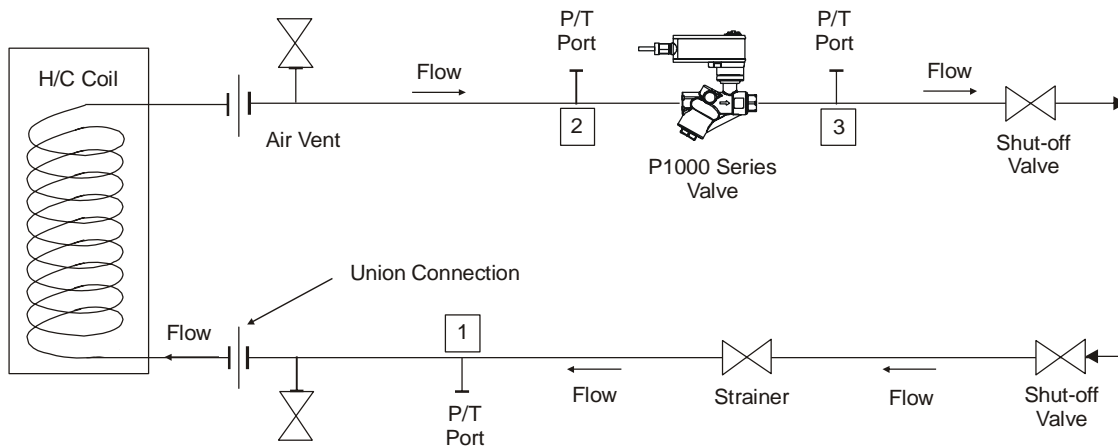

Figure 18: Typical P1000 Series Pressure Independent Valve Installation
**Note:** You must install three independent Pressure/Temperature (P/T) ports if the P1000 Series Valve is not supplied with integrated ports. See Figure 18 for P/T port locations.
External P/T ports allow for true independent verification of proper P1000 Series Pressure Independent Valve operation. Once the system has been operating for an extended time period, external P/T ports also allow for comprehensive troubleshooting and diagnosis. In Figure 18:
- Each P1000 Series Valve has at least 5 psi but less than 50 psi dP across the valve (Figure 18) by taking a reading taken across P/T ports 2 and 3.
6. Measure water temperature differential of coil by using P/T ports #1 and #2 as referenced in Figure 18.
4. Measure coil dP by using P/T ports #1 & #2 as referenced in Figure 18.